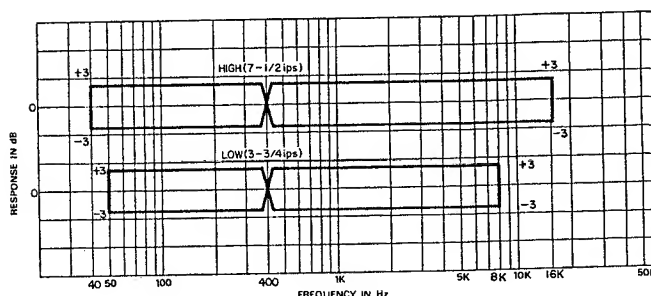

Fig. 8-11 Frequency Response — OVERALL — 2
24. Repeat the above procedure for HIGH, using a signal swept from 40 Hz to 18 kHz. Refer to Response Limits in Fig. 8-11 below.